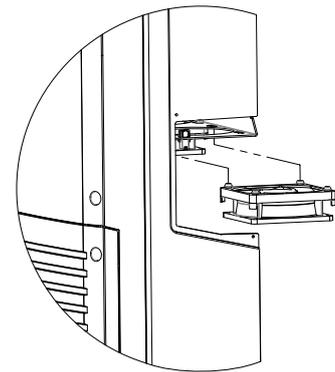

Fig. 17: Replacing the fan
7. Release the fan from the fan holding fixture (figure 17 on page 43).
1. Insert the replacement fan into the fan holding fixture (figure 17 on page 43).